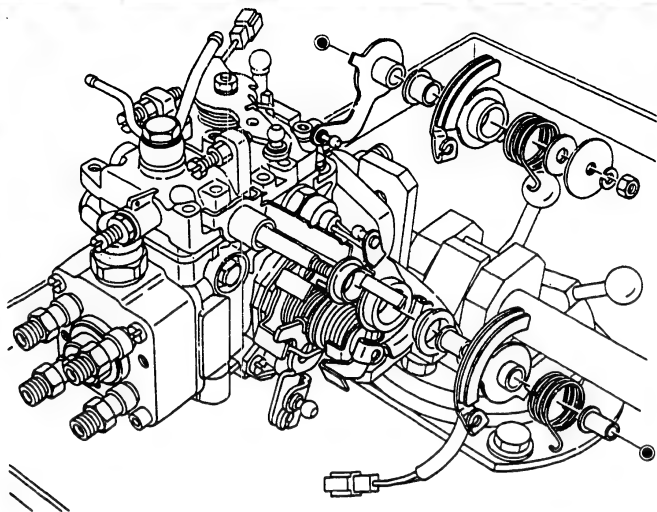

Fig. 175 Removing the nut
2. By removing the nut (74) on the tip of the shaft, the washers, springs, levers and bushings can be removed in the order shown in Fig. 175.